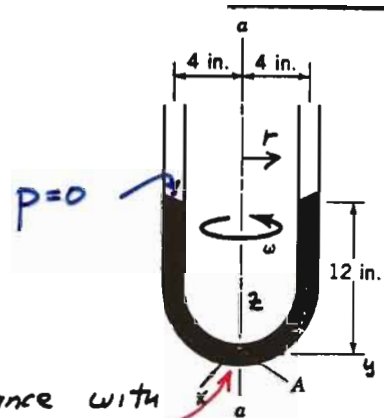

FIGURE P2.106
2.106 The U-tube of Fig. P2.106 is partially filled with water and rotates around the axis  $a$ . Determine the angular velocity that will cause the water to start to vaporize at the bottom of the tube (point A).